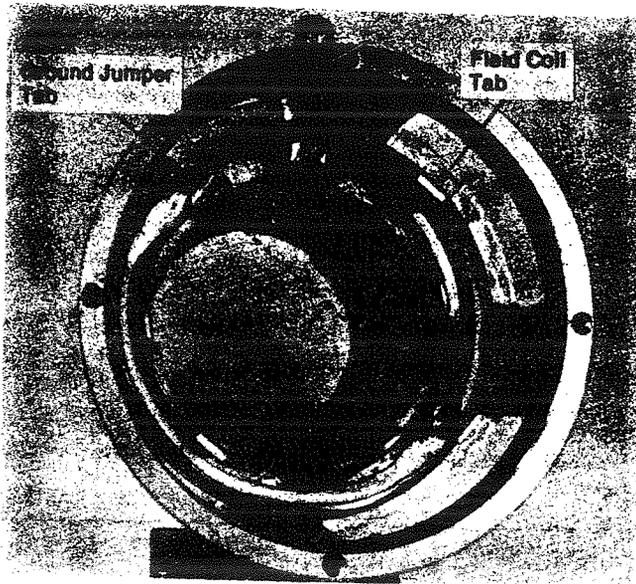

Figure 23
2. Install old style ground jumper between the field ring and the field coil so the jumper tabs are positioned approximately at 90° from the field coil tabs. Insure that the jumper clears the field coil stud and that the jumper fits snugly between the field coil and the field ring. See figure 23.